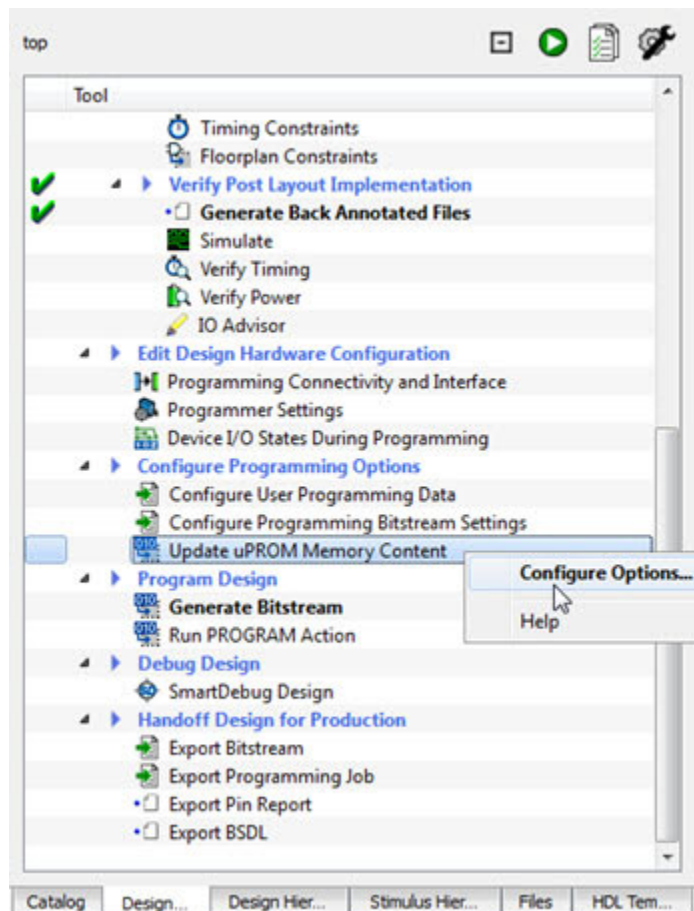

Figure 1-9 • Update uPROM Memory Content
1. Right-click Update uPROM Memory Content in the Design Flow window and choose **Configure Options**. (Figure 1-9)